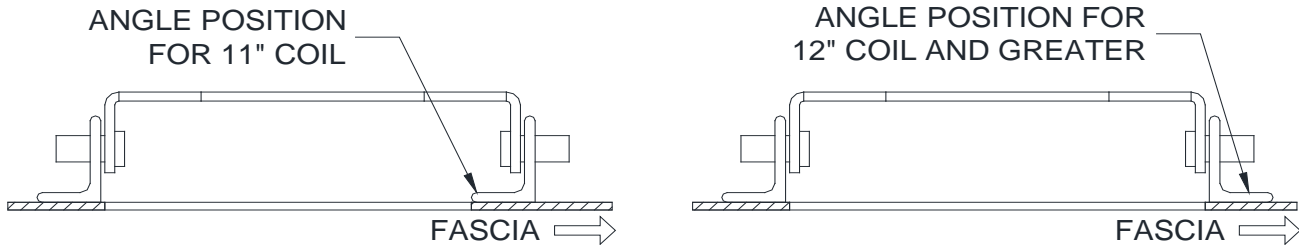

Figure 12.1 – Angle Bracket Kit, Type 5 DMI and 6 DMI
Position the angle bracket kit onto the outside face on the operator bracket as shown in **Figure 12.1**. The direction of the mounting angle nearest the fascia side depends on the coil size, as shown in **Figure 12.1**. Fasten using the (4) 1/4-20 x 3/4 button head screws, and nuts.